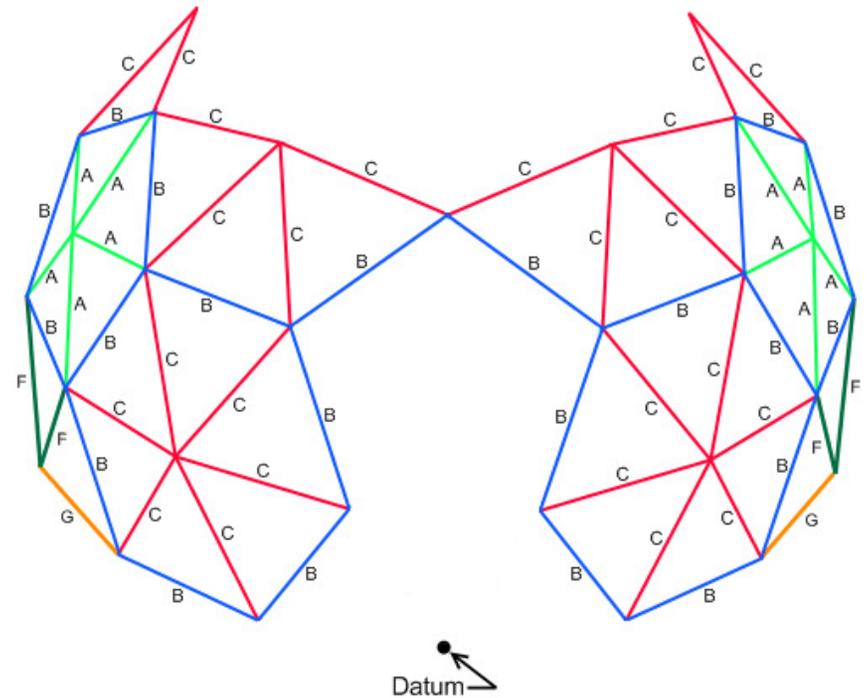

Figure 12 - Remove B-F-F triangle and G struts.
- Next remove the upside down triangle above the datum, consisting of struts B-F-F, as well as the 2 G struts to either side of the datum. See Figure 12.